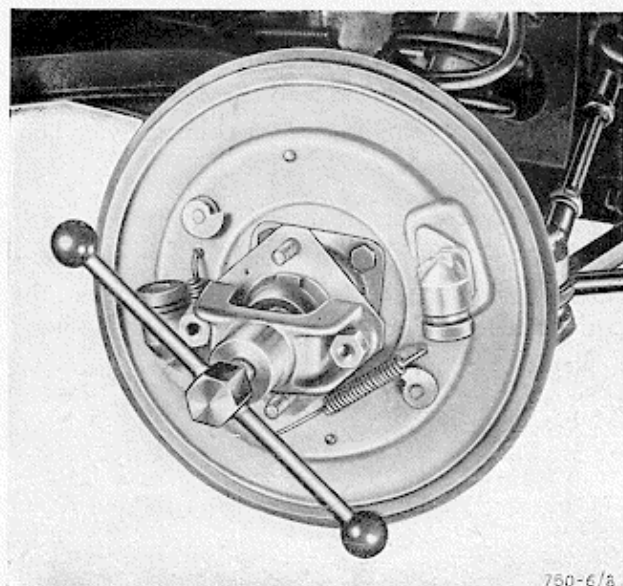

Fig. 8 - Removing the front-wheel hub from the stub axle, using tool 6121.12.063
- 4) Unscrew the nut and remove the washer; then, using tool No. 6121.12.063, draw off the hub (Fig. 8).